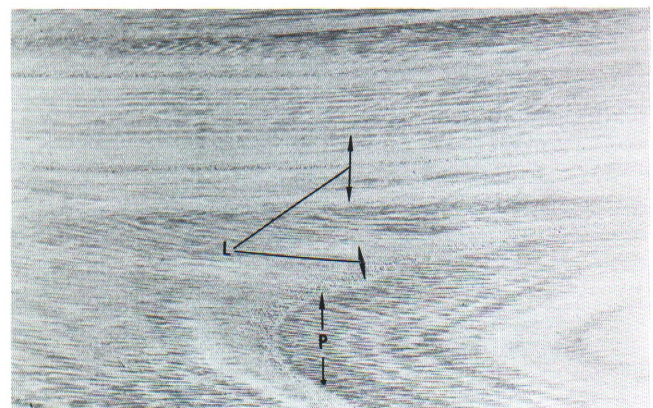
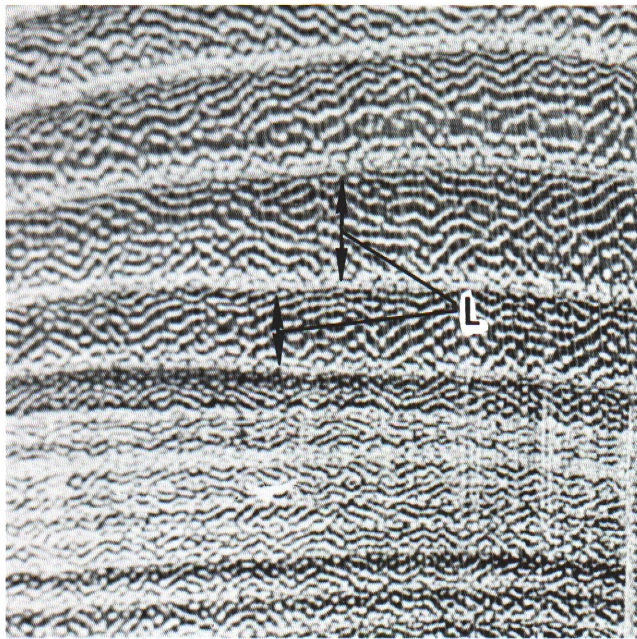

Figure 17—Elm. Earlywood pores in area P, striated latewood area, L.
Figure 18 — Elm cross section with wavy lines of pores in latewood part, L, of growth ring. (About 10x magnification).
20. On cross section latewood appears as wavy bands (Fig. 18), tangential surface with striations throughout the latewood (Fig. 17) ..... **Elm**